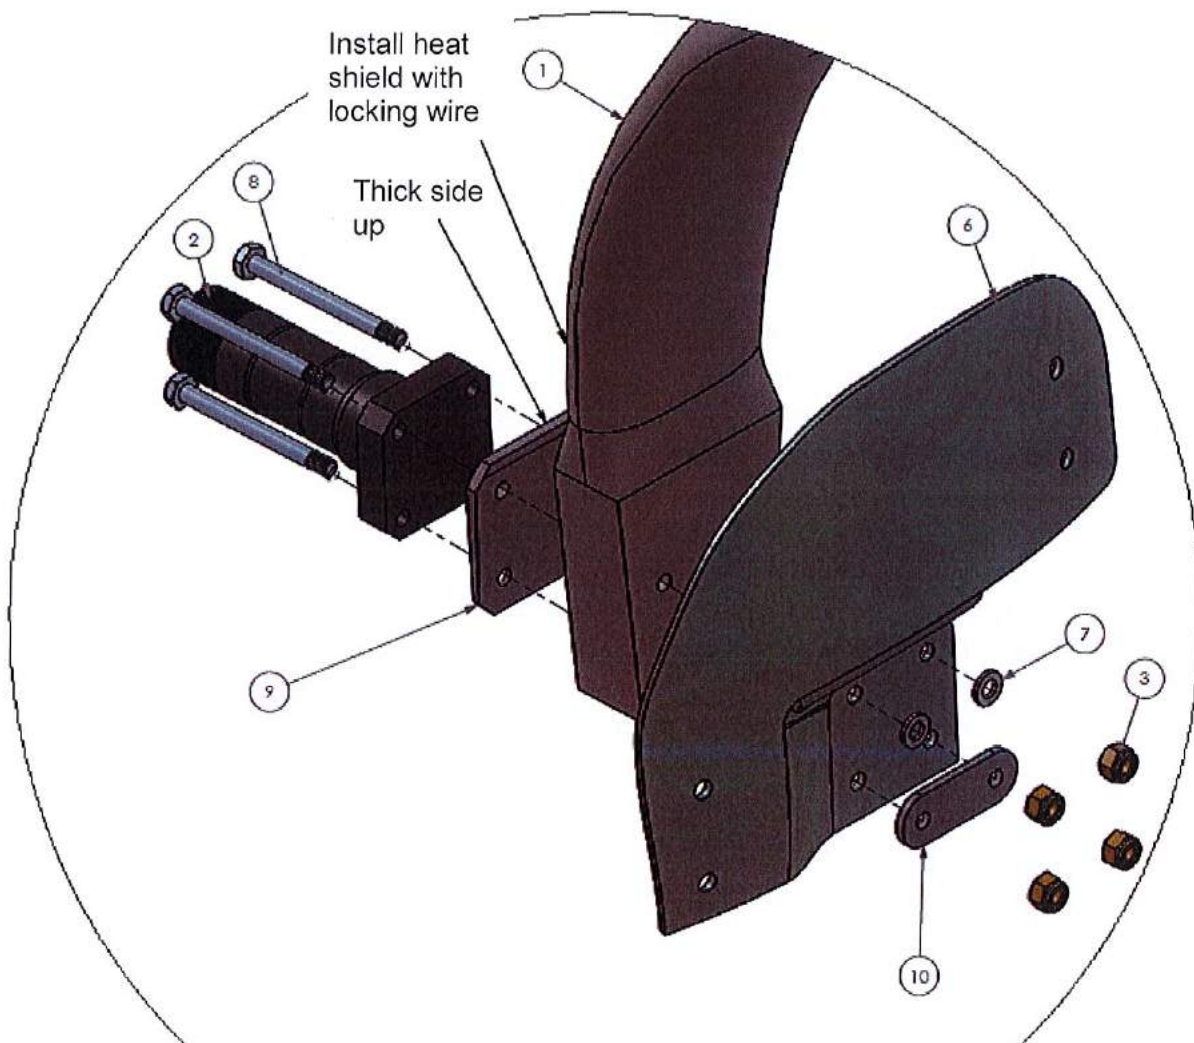

Figure 2 – Installation of order of axle spacer wedge and undercarriage double washer
8. Wrap the heat shield (Part number UN-HSD-001-X-X-0) around the landing gear leg in the region indicated in Figure 2. Use the locking wire to keep it in place as shown in Figure 3.
9. Replace the four main bolts with AN4-26A bolts (placing AN4 washers under the bolt head) after fitting the axle wedge (Part number UN-SPC-001-C-X-0) between the main gear leg and axle as shown in Figure 2. **Ensure that the thicker side of the wedge faces upwards as shown.**
10. On the inner side of the main gear leg, refit the rear wheel spat bracket (Part number UN-CMP-008-R-F-0) and then the new undercarriage double washer (Part number UN-WSR-007-X-X-0) as shown in Figure 2.
11. Before fastening the new AN4 nyloc nuts onto the AN4-26A bolts, insert AN4 washers and ensure the bolt shanks do not protrude once assembly is completed according to Figure 2. If any of the shanks are visible, insert additional AN4 washers then tighten to 7N.m.